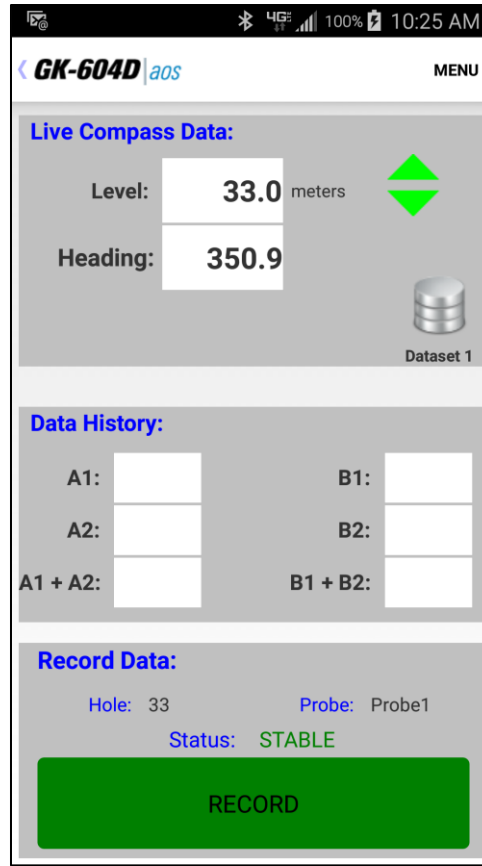

Figure 77 - Live Compass Data
7. With the compass enabled, a survey is performed as normal (see Section 3.3.1) and the compass heading can be displayed at any level by tapping on "MENU->View Compass Data", displaying the screen shown in Figure 77.